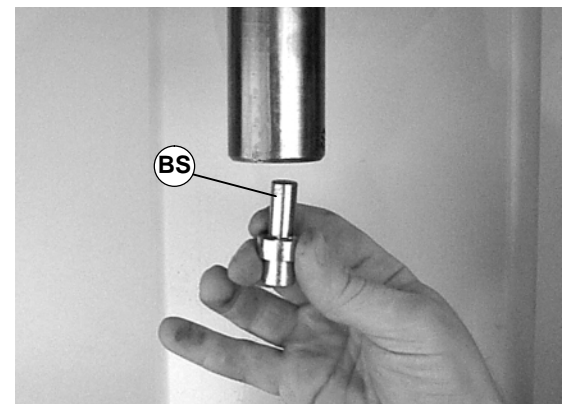

Figure 51
2. Install bearing insertion tool (part # 25-10☆) (BS of Figure 51) into arbor press or similar device.